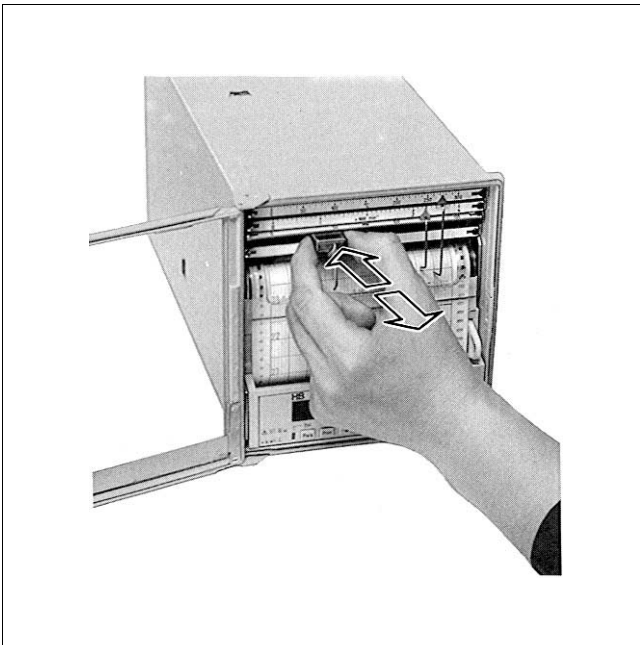

Fig. 11 Fibre pen
3. Fit the fibre pen into the chart carriage (see Fig. 11).
1. Remove fibre pen (see Fig. 11).